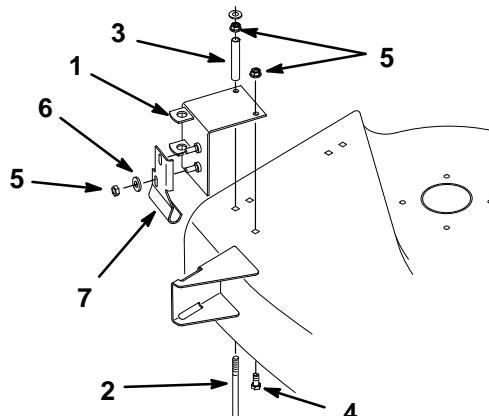

Figure 14
1. Locate the pivot support on the mower over square holes near the discharge opening (Fig. 14).
3. Secure the pivot support to the top of the mower with a 5/16 x 4-1/2" (114 mm) bolt, spacer tube, 5/16" x 7/8" (19 mm) carriage bolt, and 5/16" locknuts (Fig. 14).
4. Secure the pivot bracket to the pivot support with (2) 5/16" (8 mm) washers and (2) 5/16" locknuts (Fig. 14).